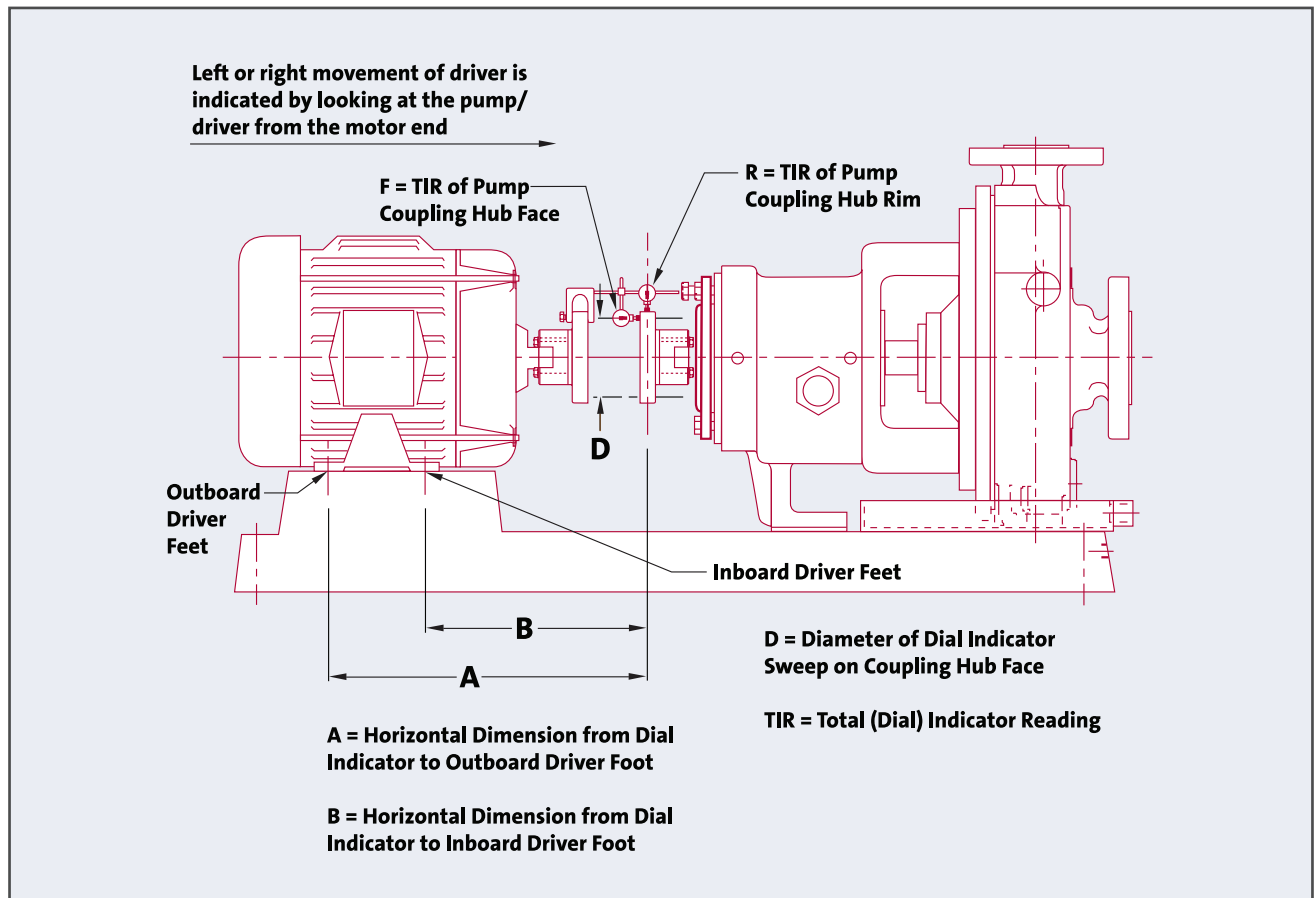

Figure 12. Rim and Face Method – Layout
Figure 12 shows the dimensions and readings that are required for alignment using the Rim and Face Method. Following are definitions used with the Rim and Face Method.
- b. Record measurements “A”, “B” and “D” as shown in *Figure 12*.